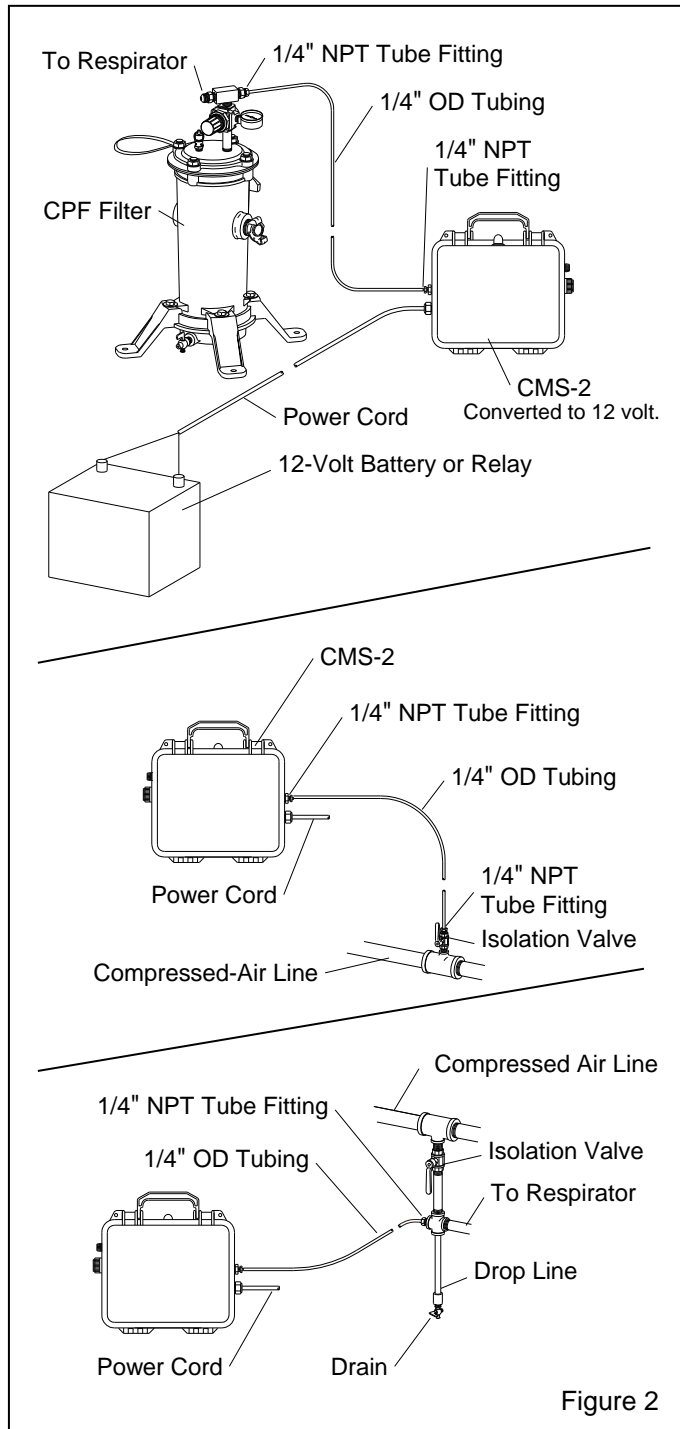

Figure 2
2.3.3 Place a tee in the air-supply line, and use a bushing or other adaptor, to connect one of the 1/4" NPT tube fittings supplied. Install an isolation valve at the source to enable depressurization for service and to remove the monitor. Typical setups are shown in Figure 2.